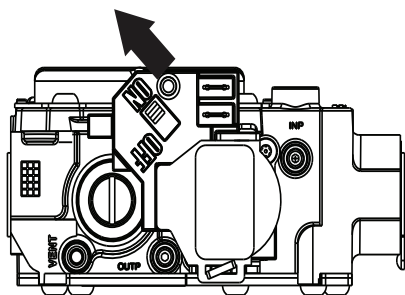

Fig. 11 – Control Switch to ON
- After waiting five minutes, turn control switch on the gas control to the ON position. Turn the control switch to ON (see Fig. 11).